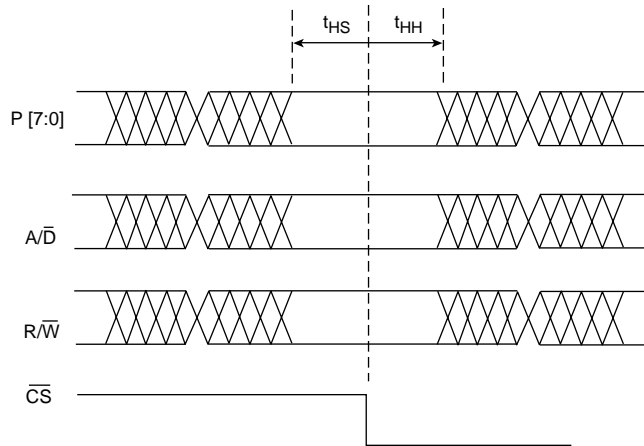

Fig. 14a HOSTIF Parallel Port Input Setup & Hold Times
B) Signals are "strobed" into/out of the parallel port on the falling edge of the  $\overline{CS}$  signal. Setup and hold times, as defined in the AC timing tables, are relative to this edge and must be met (see Figure 14a)